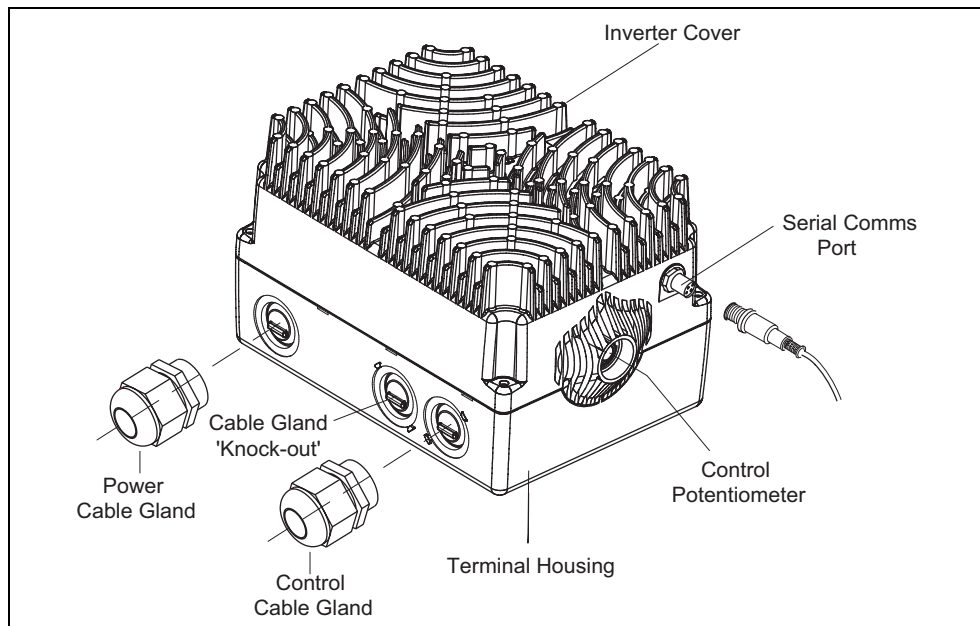
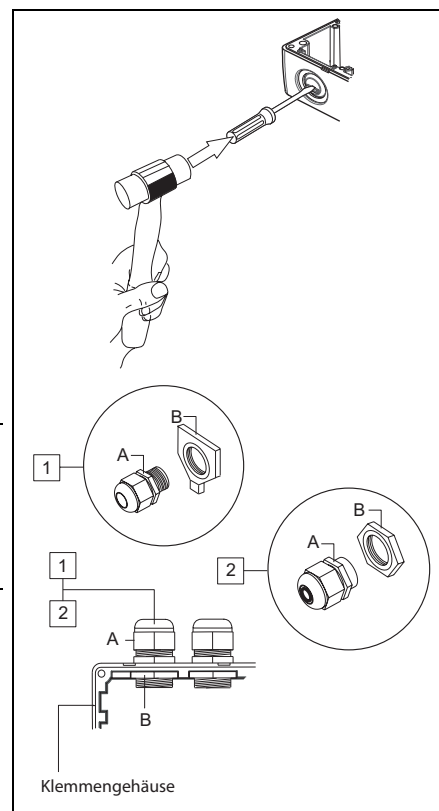

Figure 2-5 Cable Glands
Figure 2-6 Installation of Cable Gland
3. Remove the cable gland blanking plates (knockouts) as required (see Figure 2-6). The preferred gland arrangements are shown in the General Layout Diagram(see Figure 2-5).
1. Using a hammer and a flat-head screw-driver as shown in Figure 2-6 strike the gland plate or 'knockout' to obtain a clearance for the 25 mm cable gland.
3. After the knockout has been removed it should be safely discarded and the cable glands fitted as shown in Figure 2-6.